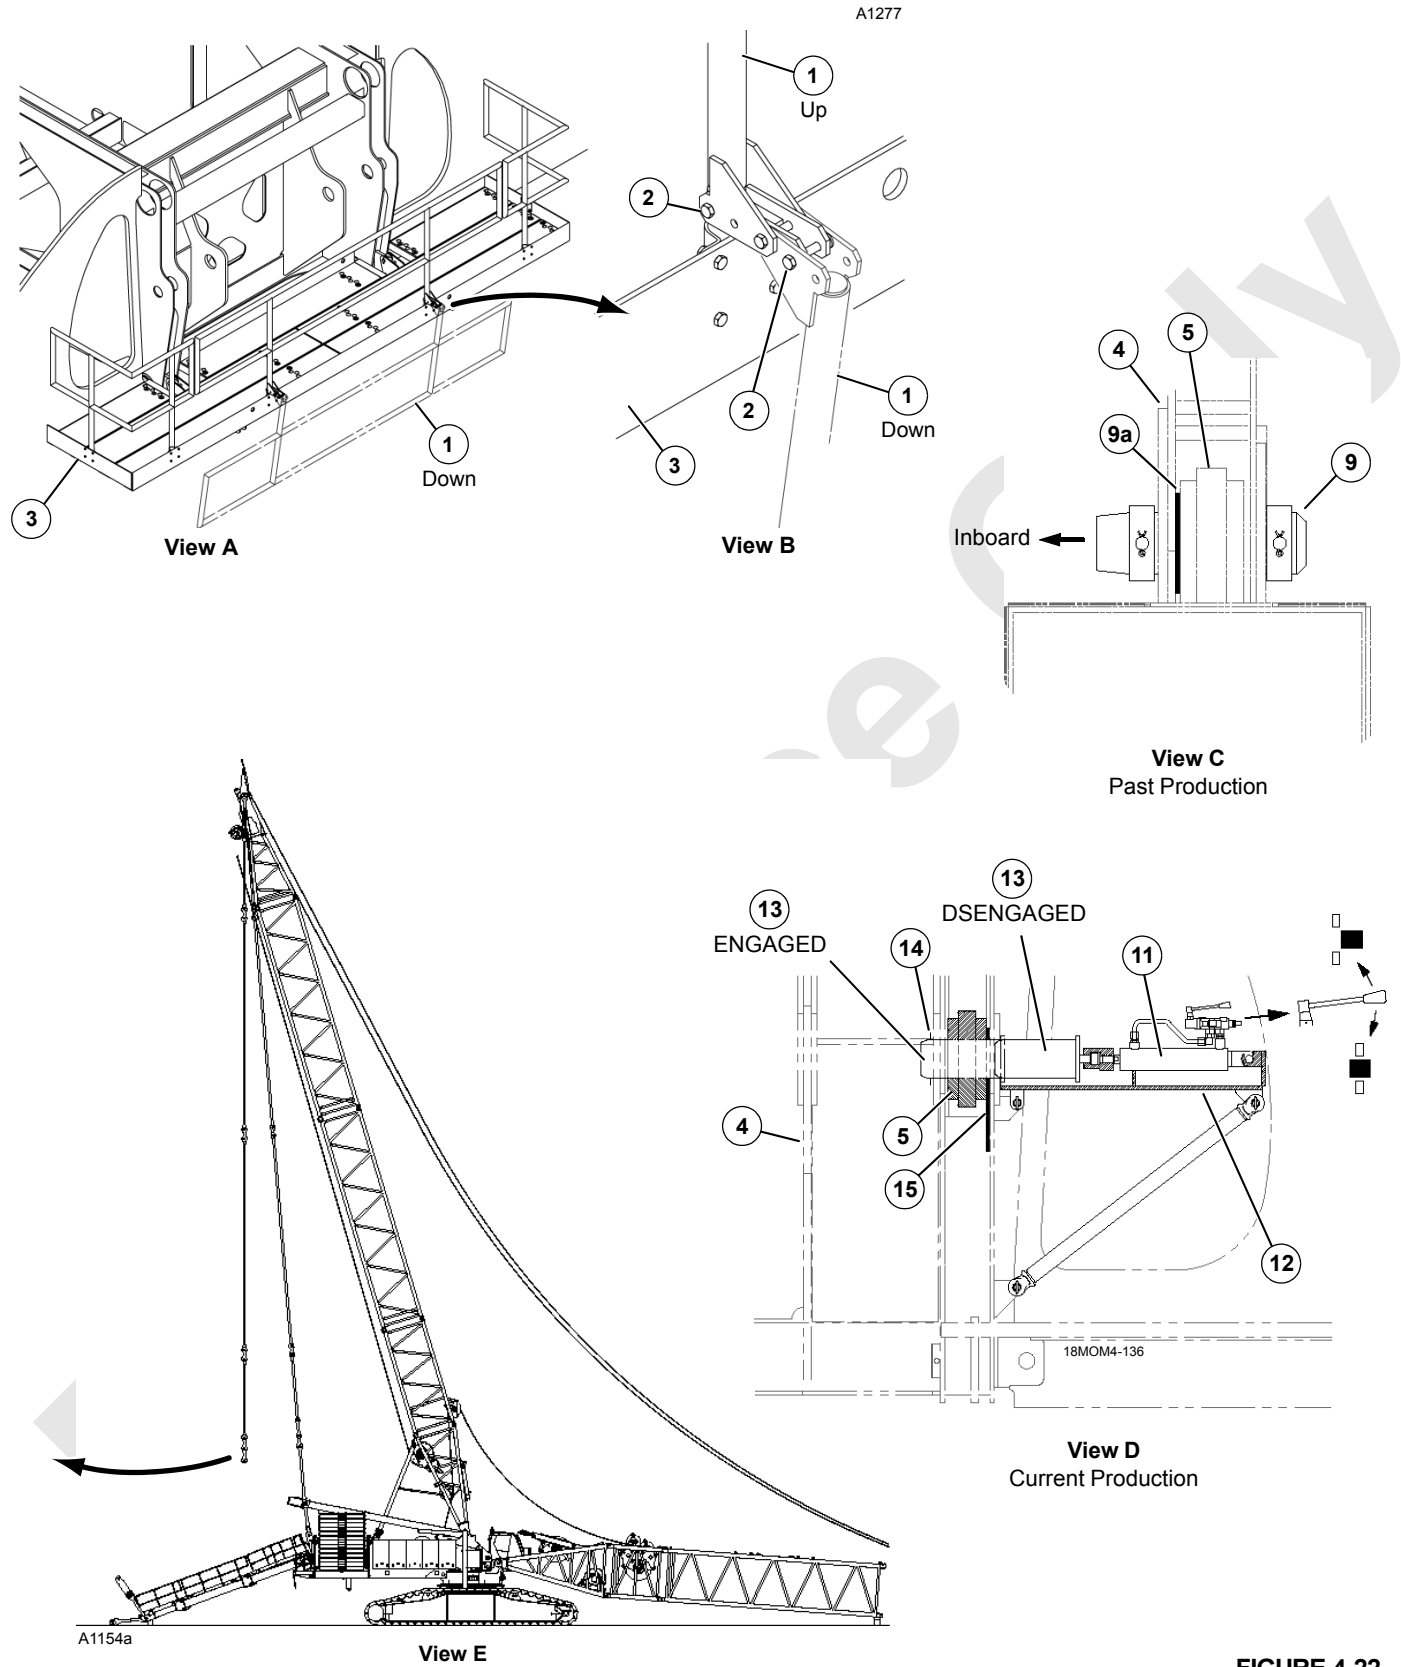

FIGURE 4-22
Component Identification for Figure 4-22
See Figure 4-22 for the following procedure.
- Pin links (2, View B) and straps (3) to mast counterweight straps (1) with connecting pins (4c) and (4d). Install collars (9, View C) and retaining pins (10).
- Attach a tagline to counterweight straps (1) and pull straps out (Figure 4-22, View D) to mate strap (3) with spreader beam (5).
- Using slings from assist crane attached to lifting lugs on spreader beam (5), lift spreader beam with attached shear frame assembly to operating position and attach spreader beam (5) to strap (3) with retaining pin (4b View B). Install collars (9, View C) and retaining pins (10).